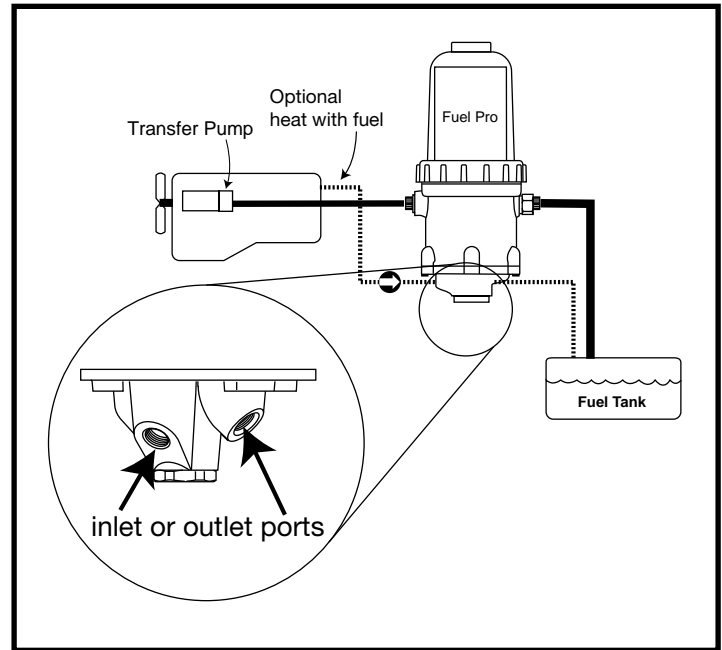

Figure 3
**Note:** The Engine Return Fuel Heat and Engine Coolant Heat options apply ONLY to the heater base. (See Figure 3) Return fuel heat can only be used if the return fuel flow rate is equal to or greater than 30 gph.
To use return fuel as the Fuel Pro heating fluid, route the return fuel line from the engine into the heater base of the Fuel Pro. (See Figure 3) Either heater port can be used as an inlet or outlet. Connect a second fuel return line from the heater base to the fuel tank return port.